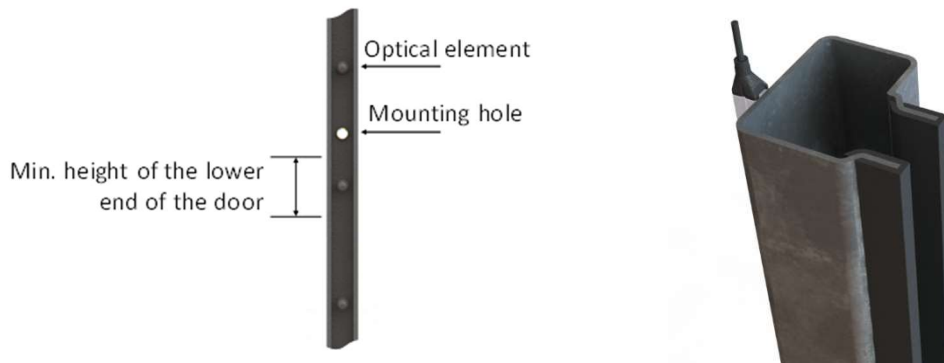

Figure 5.1: Door blanking through door edge
When the installation of RAY-LG is not possible inside the side guide, it may also be mounted from the back side (Figure 5.1). Holes of min \varnothing 10 mm must be drilled into the profile to allow the light to pass through.
4. Mount the receiver bar into the guiding track next to the door control unit (see Figure 5.1).